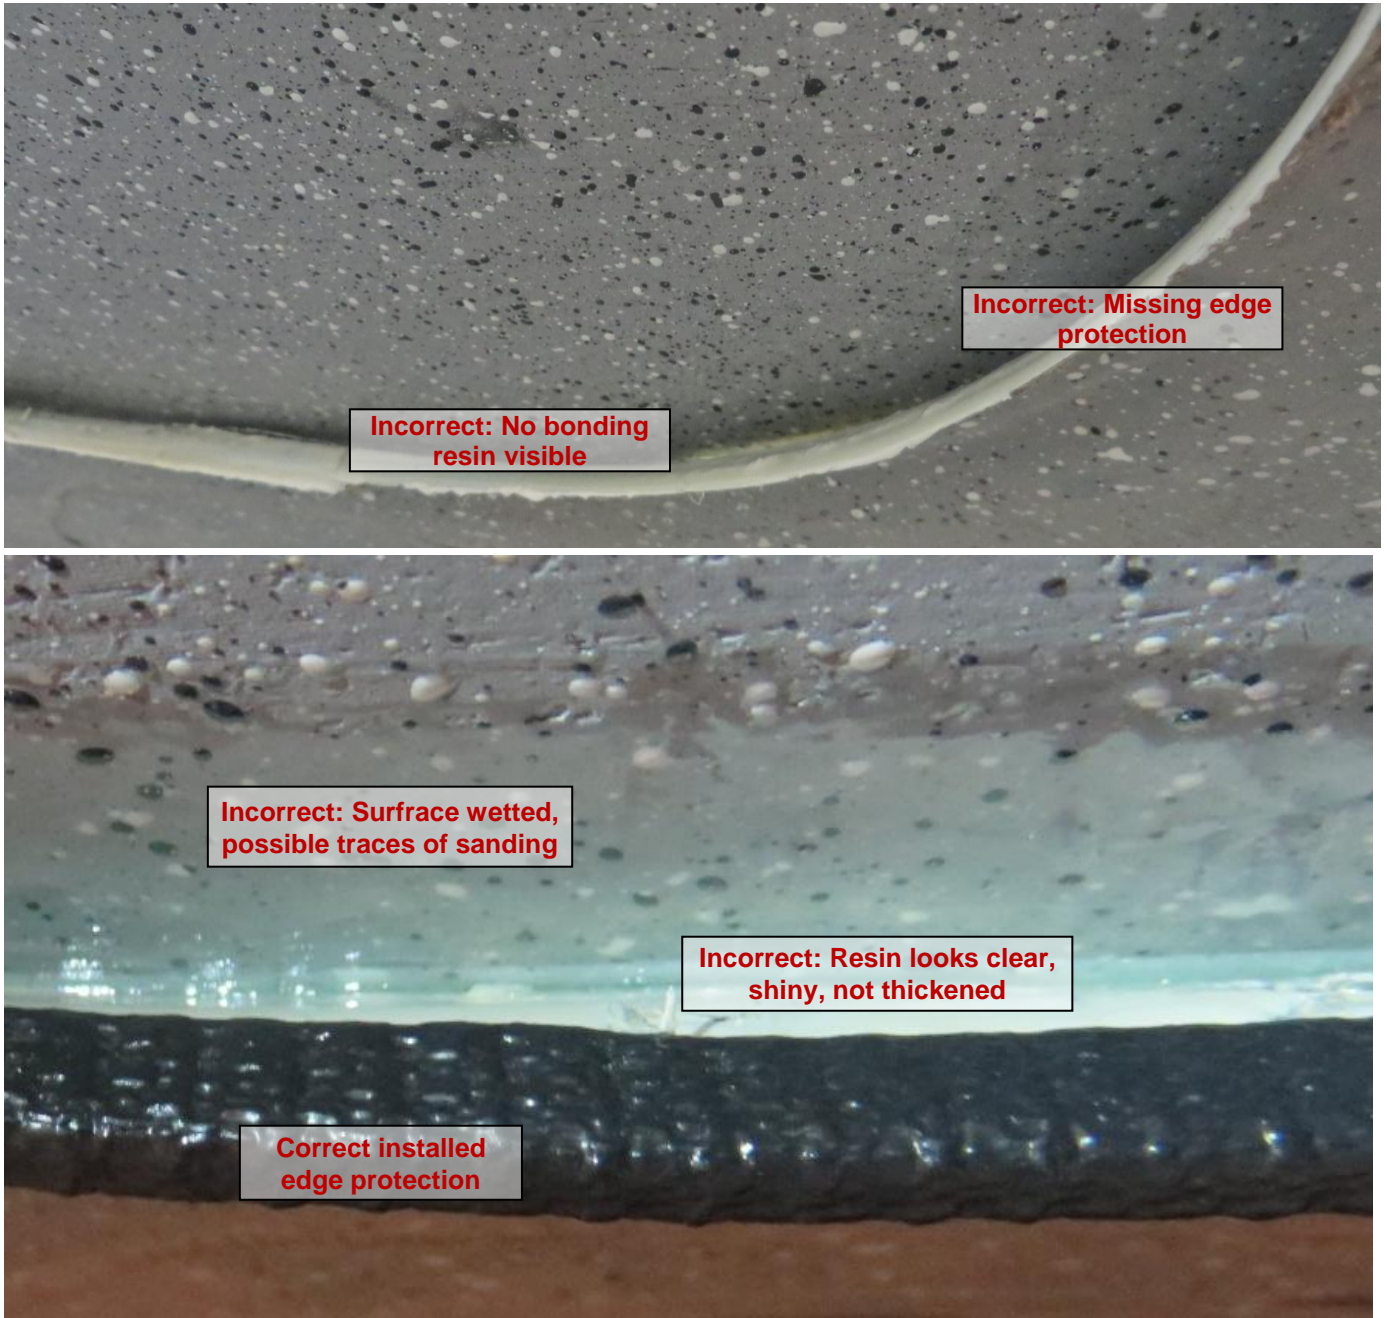

Fig. 4 – Sample view a **wrong** installation showing examples of the listed details
**Wrong** installation of the extraction hatch is given when any one of the following listed aspects is identified (see Fig. 4):